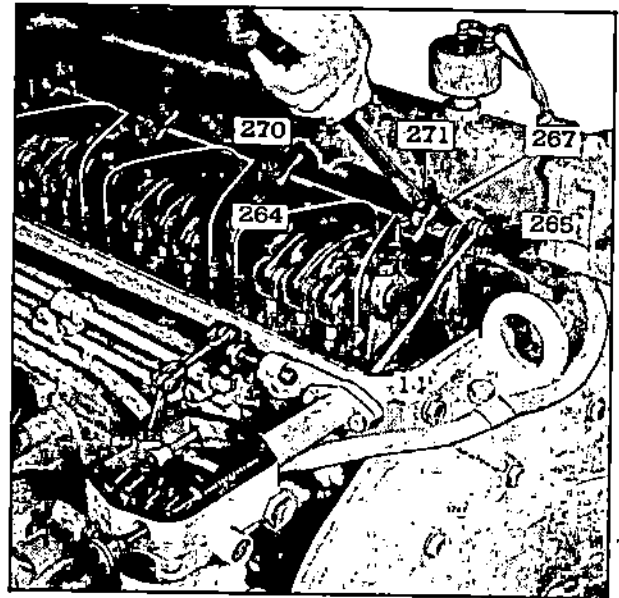

Fig. 15 - Positioning No. 1 Injector Rack Control Lever
1. Remove the governor cover, Fig. 15, and loosen all the inner adjusting screws (270) and outer adjusting screws (271). Make sure all control levers (267) are free on the injector control tube.
1. Turn the outer adjusting screw (271), Fig. 15, in until a slight movement of the injector control tube lever (265) is observed. Then, tighten the inner adjusting screw (270).
3. Disconnect the fuel rod (14) from the injector rack control tube lever (265).
4. Manually hold No. 1 injector rack control lever in the full fuel position and turn the inner adjusting screw (270), Fig. 15, into No. 2 injector rack control lever until the injector rack has moved into the full fuel position and the inner adjusting screw is bottomed on the injector control tube. Turn the outer adjusting screw (271) down until it bottoms lightly on the injector control tube. Then, alternately tighten both the inner and outer adjusting screws until they are tight.